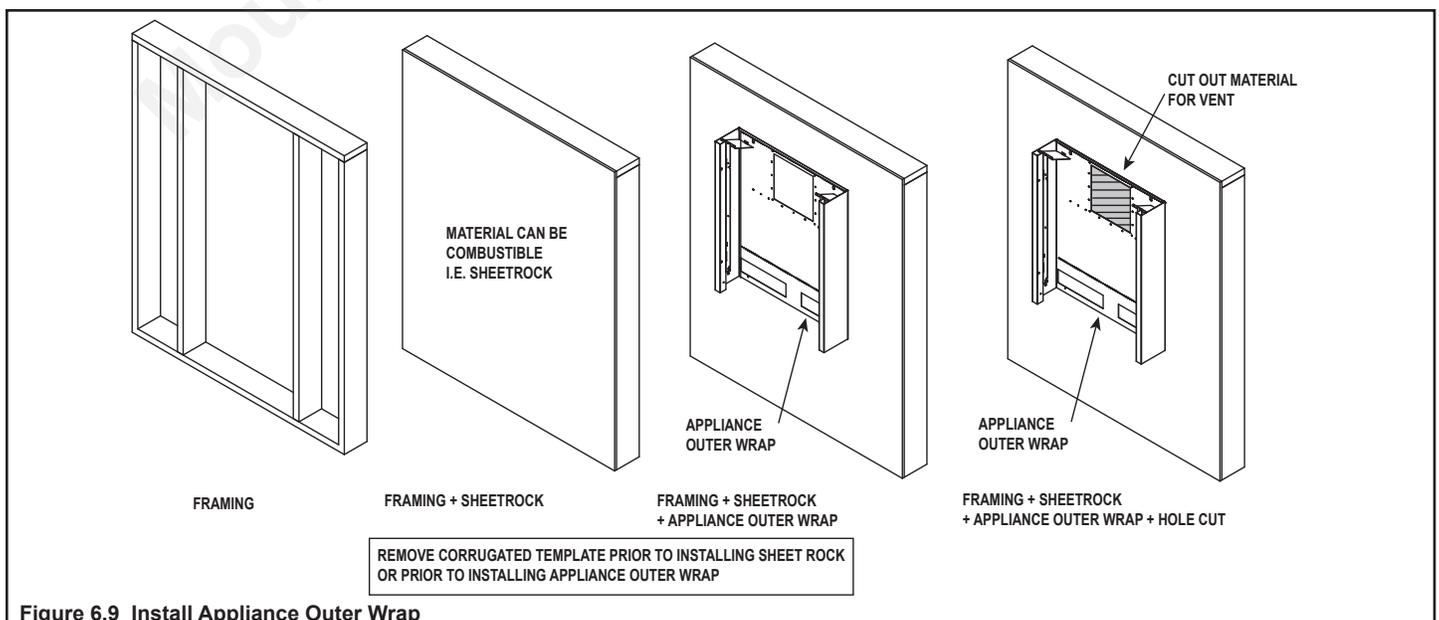
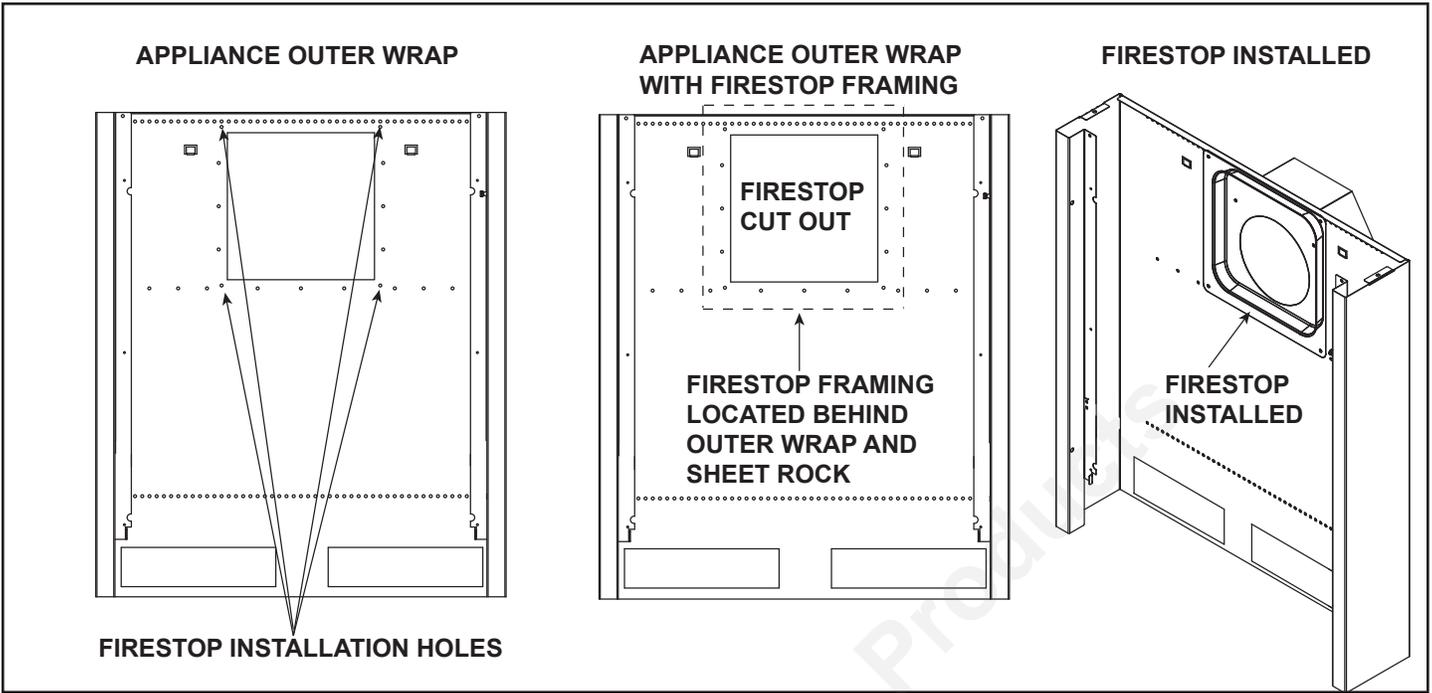
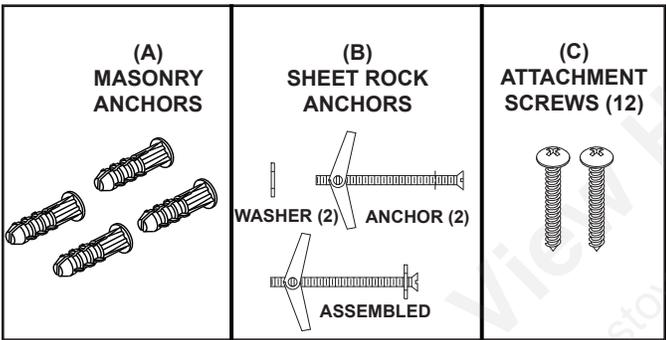
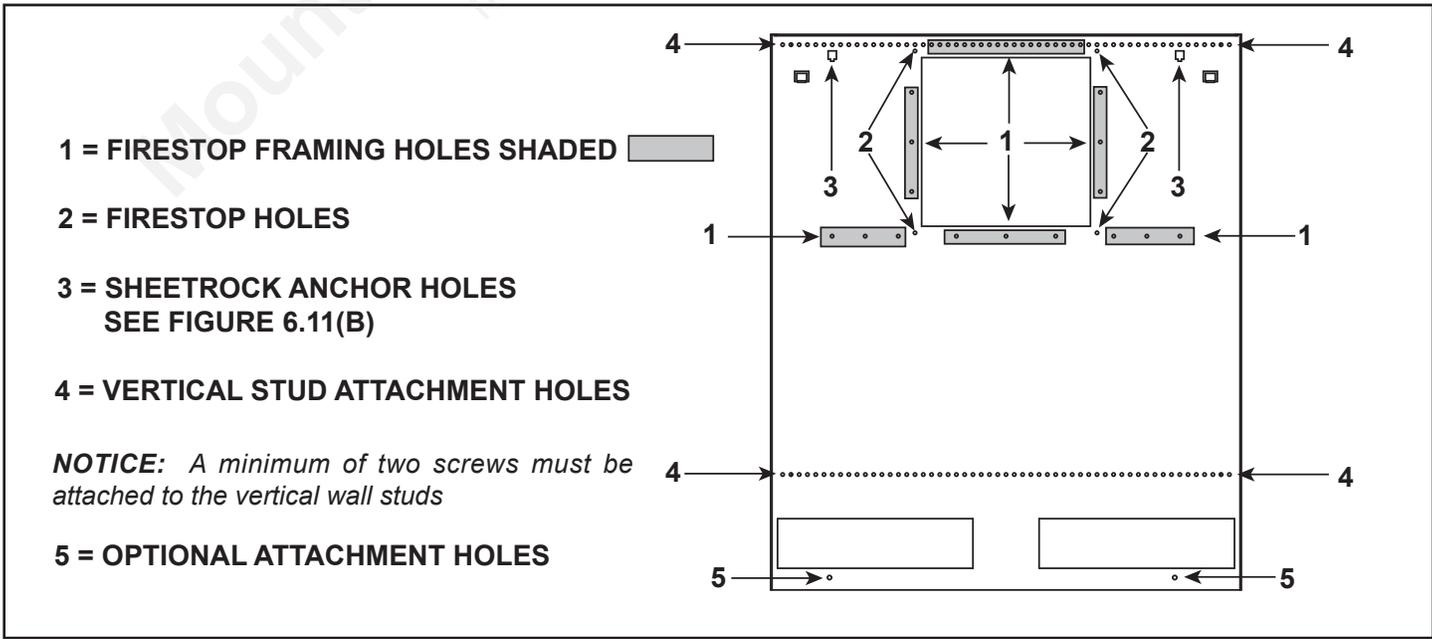

Figure 6.9 Install Appliance Outer Wrap
Figure 6.10. Install Firestop and Firestop Framing
Figure 6.11 Masonry Anchors and Sheet Rock Anchors
Figure 6.12 Outer Wrap Mounting Feature Identification
3. Position the outer wrap on the wall and ensure it is level. See Figure 6.9. A minimum of two screws must be attached to the vertical wall studs. Secure with the fasteners provided. See Figure 6.11(C) and Figure 6.12.
4. Cut hole through wall as indicated in Figure 6.9. You may use the appliance outer wrap as a guide.
5. Frame around the edges of the firestop cut out to ensure insulation does not come into contact with the vent pipe. See Figure 6.10 and 6.12.
6. Install wall firestop with four screws. See Figure 6.10 and Figure 6.11(C).
8. When attaching to a brick (masonry) wall, use masonry anchors. See Figure 6.11 (A).
9. A minimum of two screws must be used to attach the appliance to vertical wall studs. See Figure 6.11 (C). Use sheet rock anchors if a wall stud is not available on either or both sides of the appliance outer wrap. See Figure 6.11 (B).